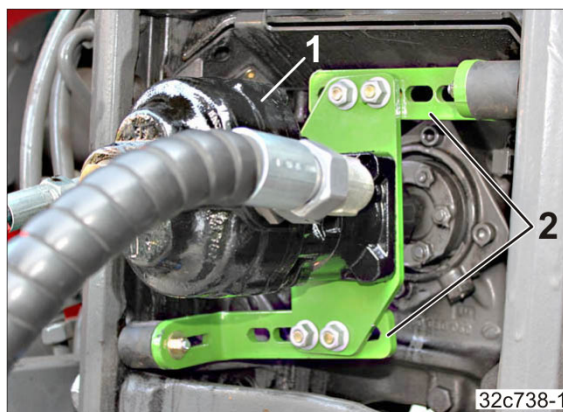

Fig. 158
5. Couple the hydraulic pump (Fig. 158/1) to the tractor's PTO shaft.
6. Set the adjuster segment so that both buffers (Fig. 158/2) rest against it.